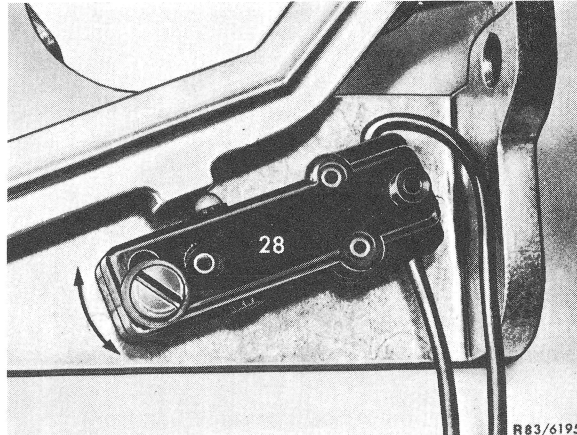

Fig. 10
**37** Check whether the micro switch (28) is actuated in the lower position of both heater operating levers. If required, adjust micro switch accordingly (arrow in Fig. 10).